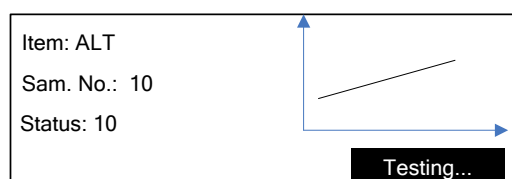

Fig. 2-24 Sample test status
- b) In case of status of "Press the SUCK key!", prepare the test sample and press the SUCK key to suck the sample. The system sucks according to the amount set and accesses test procedure automatically. The status bar will display "Testing...", and the "Test status" bar will display the progress in second as shown in Fig. 2-24.